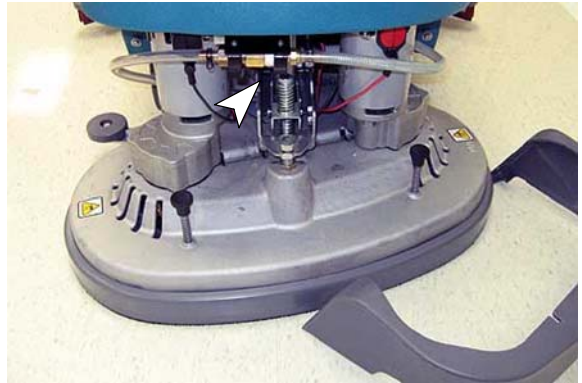

FIG. 81
1. To access the detergent injector assembly, lower the scrub head and remove the front shroud (Figure 81)